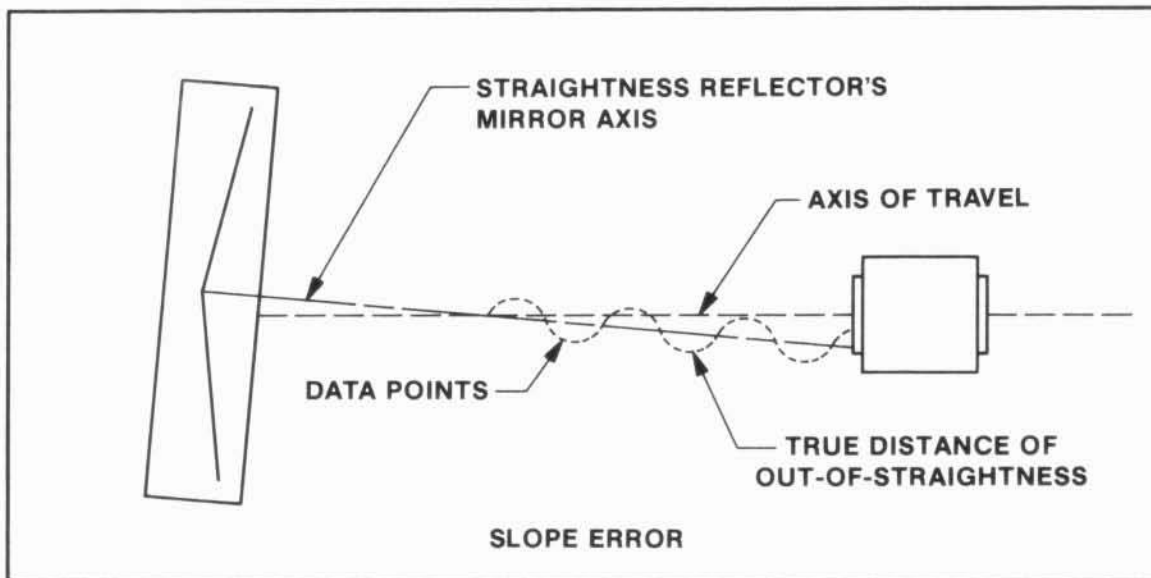

Figure G-12. Slope Error
- f. Remove measurement slope. This slope refers to the angle inscribed by the mirror axis and the axis of travel (see *Figure G-12*).
The straightness optics are now aligned. There may be further fine adjustment to be done, but first make several measurement passes and observe the data. If a steady change in the data occurs, rather than either a random scattering of numbers or a constant number, this indicates misalignment between the axis of travel and the reflector's mirror axis. See Figure G-12 for an illustration of this error. This error is called "slope", and must be removed to obtain proper straightness information.